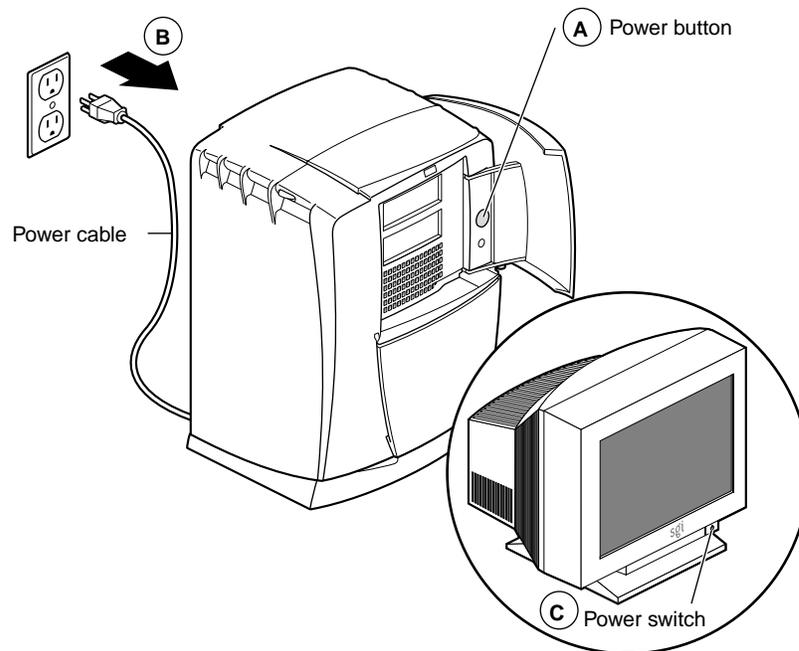

Figure 3-1 Powering Off the Octane2 Workstation
1. Open the cover and press the power button (see A in Figure 3-1) to power off your workstation.
2. Unplug the power cable (B) from the electrical socket.
3. Press the monitor power switch (C) to power off your monitor.